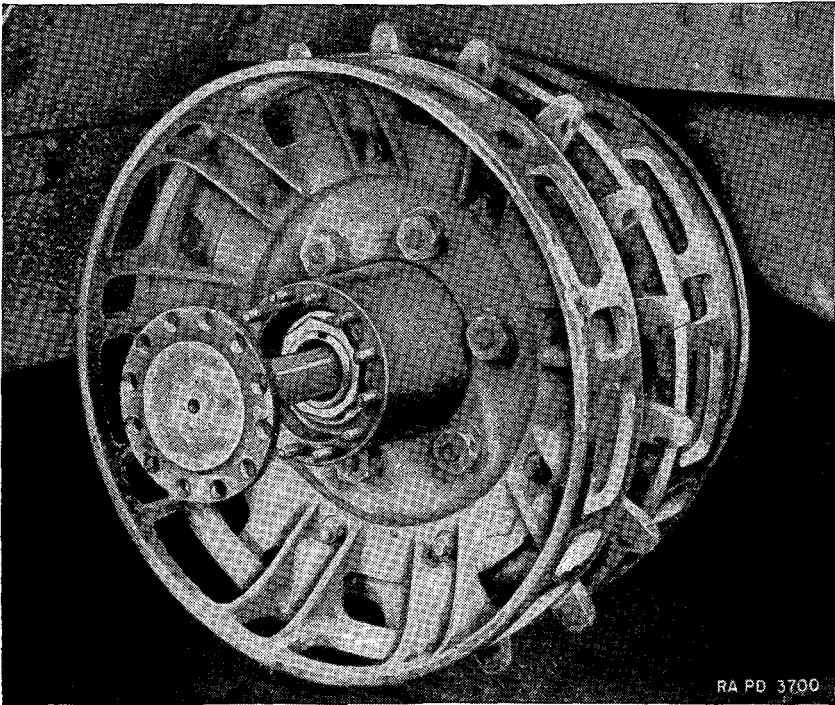

FIGURE 47.—Rear axle drive shaft removal.
(1) Remove sprocket assemblies. Follow steps in *a* through *c*, paragraph 20.
(2) Remove drive shaft and flange assemblies— $\frac{5}{8}$ -inch socket wrench, hammer, pry bar. Take off twelve $\frac{7}{16}$ -inch drive flange nuts (BBBX1D) and lock washers (BECX1L). Use puller screws in flange, tap flange in center with hammer to loosen, and pull out shaft (C85643) with aid of pry bar (fig. 47).